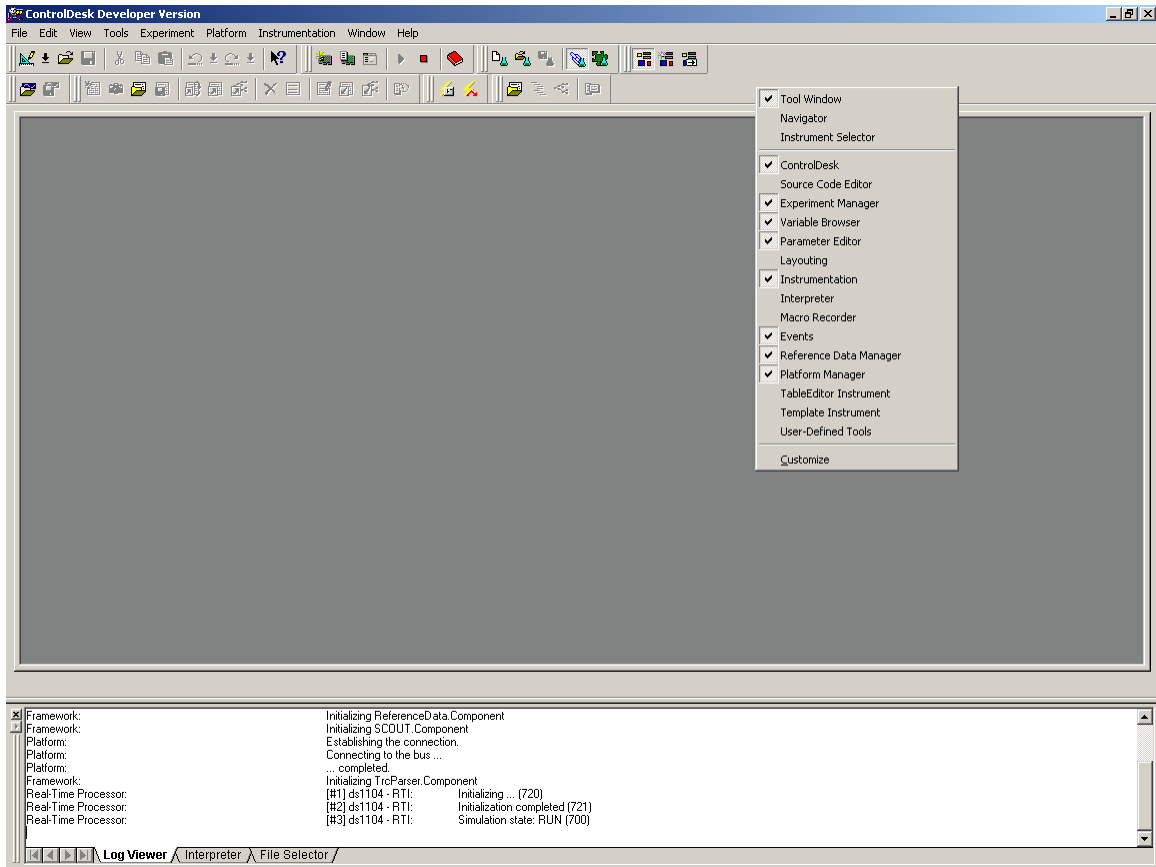

Figure 2.7: Control Desk Screen
- Start ControlDesk and select only the toolbars checked as shown in Fig. 2.7.
The Tool Window is displayed at the bottom of Control Desk screen as shown in Fig. 2.7. The Tabs display the tool currently used. In the figure only three of the working tools are available: *Log Viewer*, *Interpreter* and *File Selector*.